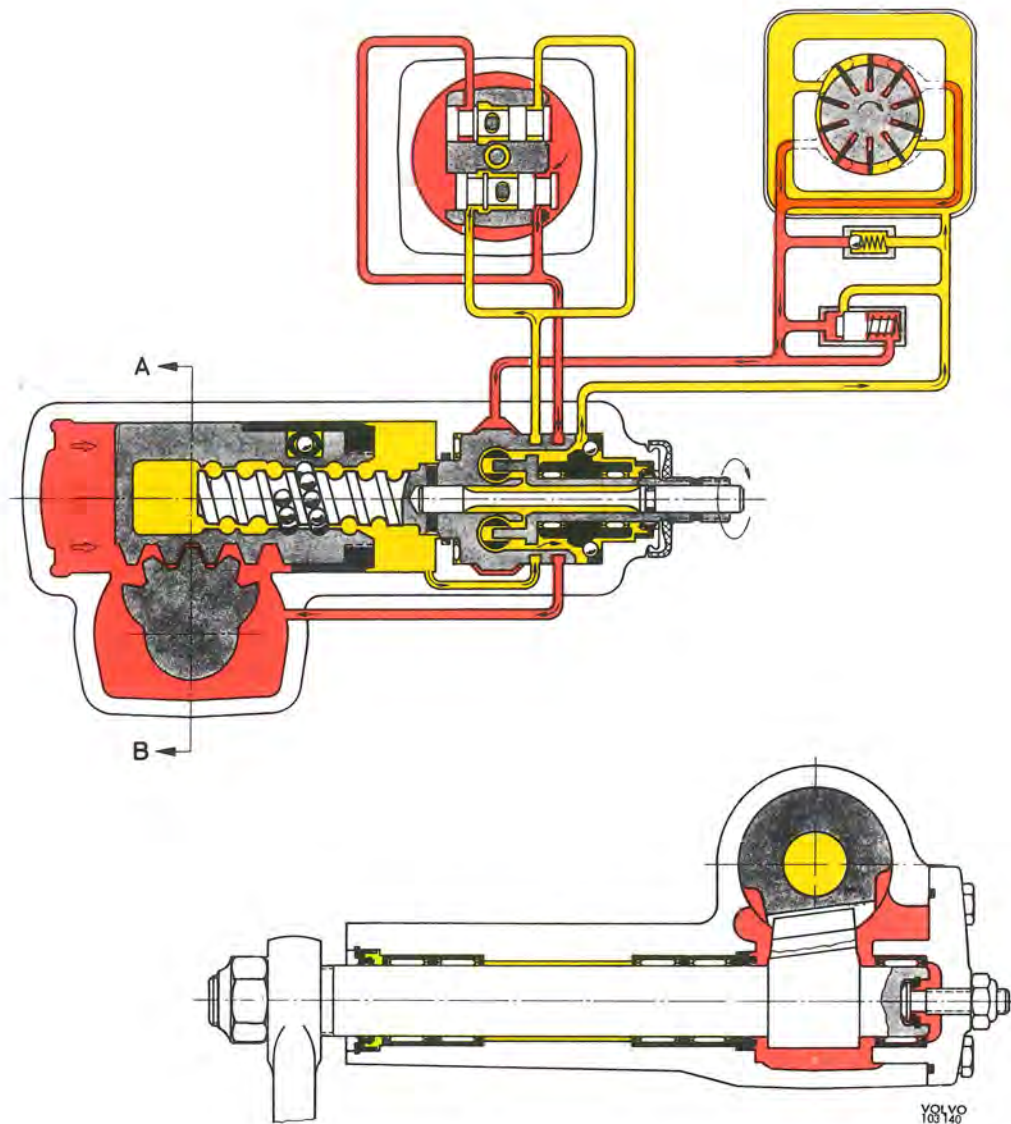

Fig. 6-41. Function, right-hand turn
As soon as the front wheels have been turned to the desired position, and the forces acting on the steering wheel become less, the valve pistons return to the neutral position under the influence of the torsion rod. When the steering wheel is turned to the right (see Fig. 6-41), the piston (2) is screwed to the right in the figure. The valve piston (10) is moved to the right and permits oil under pressure to pass to the radial groove (18) of the valve housing and from there to the left side of the cylinder. Oil under pressure also flows to the return groove (7) which, however, is closed so that the oil pressure on the left side of the operating piston (2) rises and facilitates turning of the sector shaft. Oil at the right side of the cylinder is pressed by the piston via the radial groove (19)
Turning the steering wheel to the right (see Fig. 6-41) will screw the piston (2) to the right on the figure. The valve piston (10) is displaced to the right and permits oil under pressure to pass to the radial groove (18) of the valve housing and from there on to the left-hand side of the cylinder. Oil under pressure also flows to the return groove (7) which, however, is closed so that oil pressure on the left-hand side of the operating piston (2) rises and facilitates the turning of the lever shaft. Oil at the right-hand section of the cylinder is pressed by the piston via the radial groove (19) through the return groove (6) of the valve piston (10) back to the oil container (13).
The space in the intermediate piece is oval, see Fig. 6-41. This permits the area between the rotor, the wall of the intermediate piece and two of the vanes to